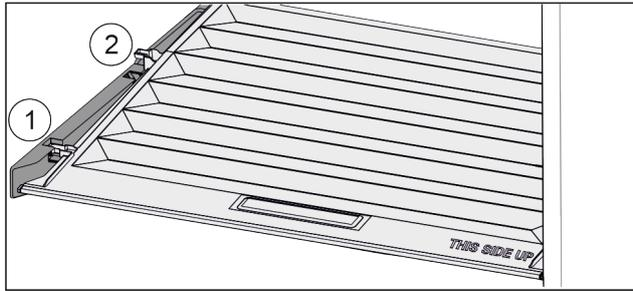

Fig. 42
- ▶ Pull the lid up at the front to the opening in the retaining parts Fig. 42 (1).
- ▶ Lift from the back and pull it up and out Fig. 42 (2).